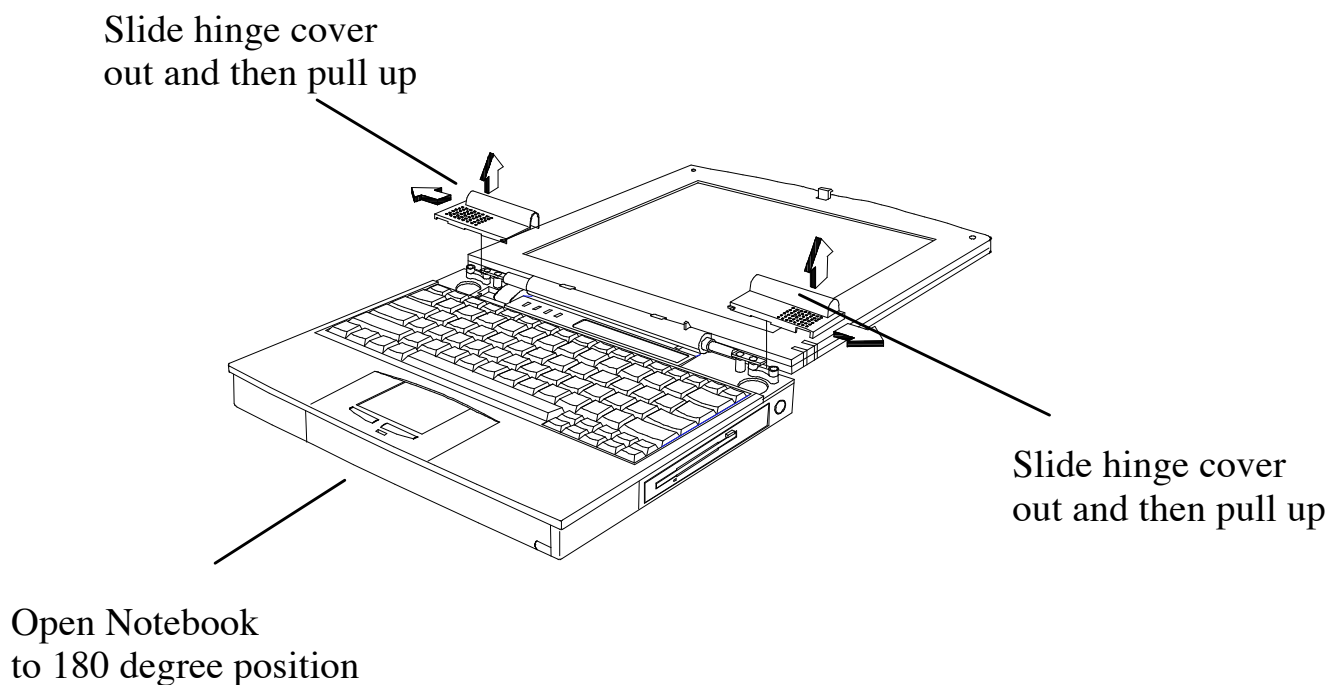

Figure 6-6 Removing the Display Hinge Covers
2. Press the Cover Release Latch and open the notebook to a full 180 degree position as shown in Figure 6-6.